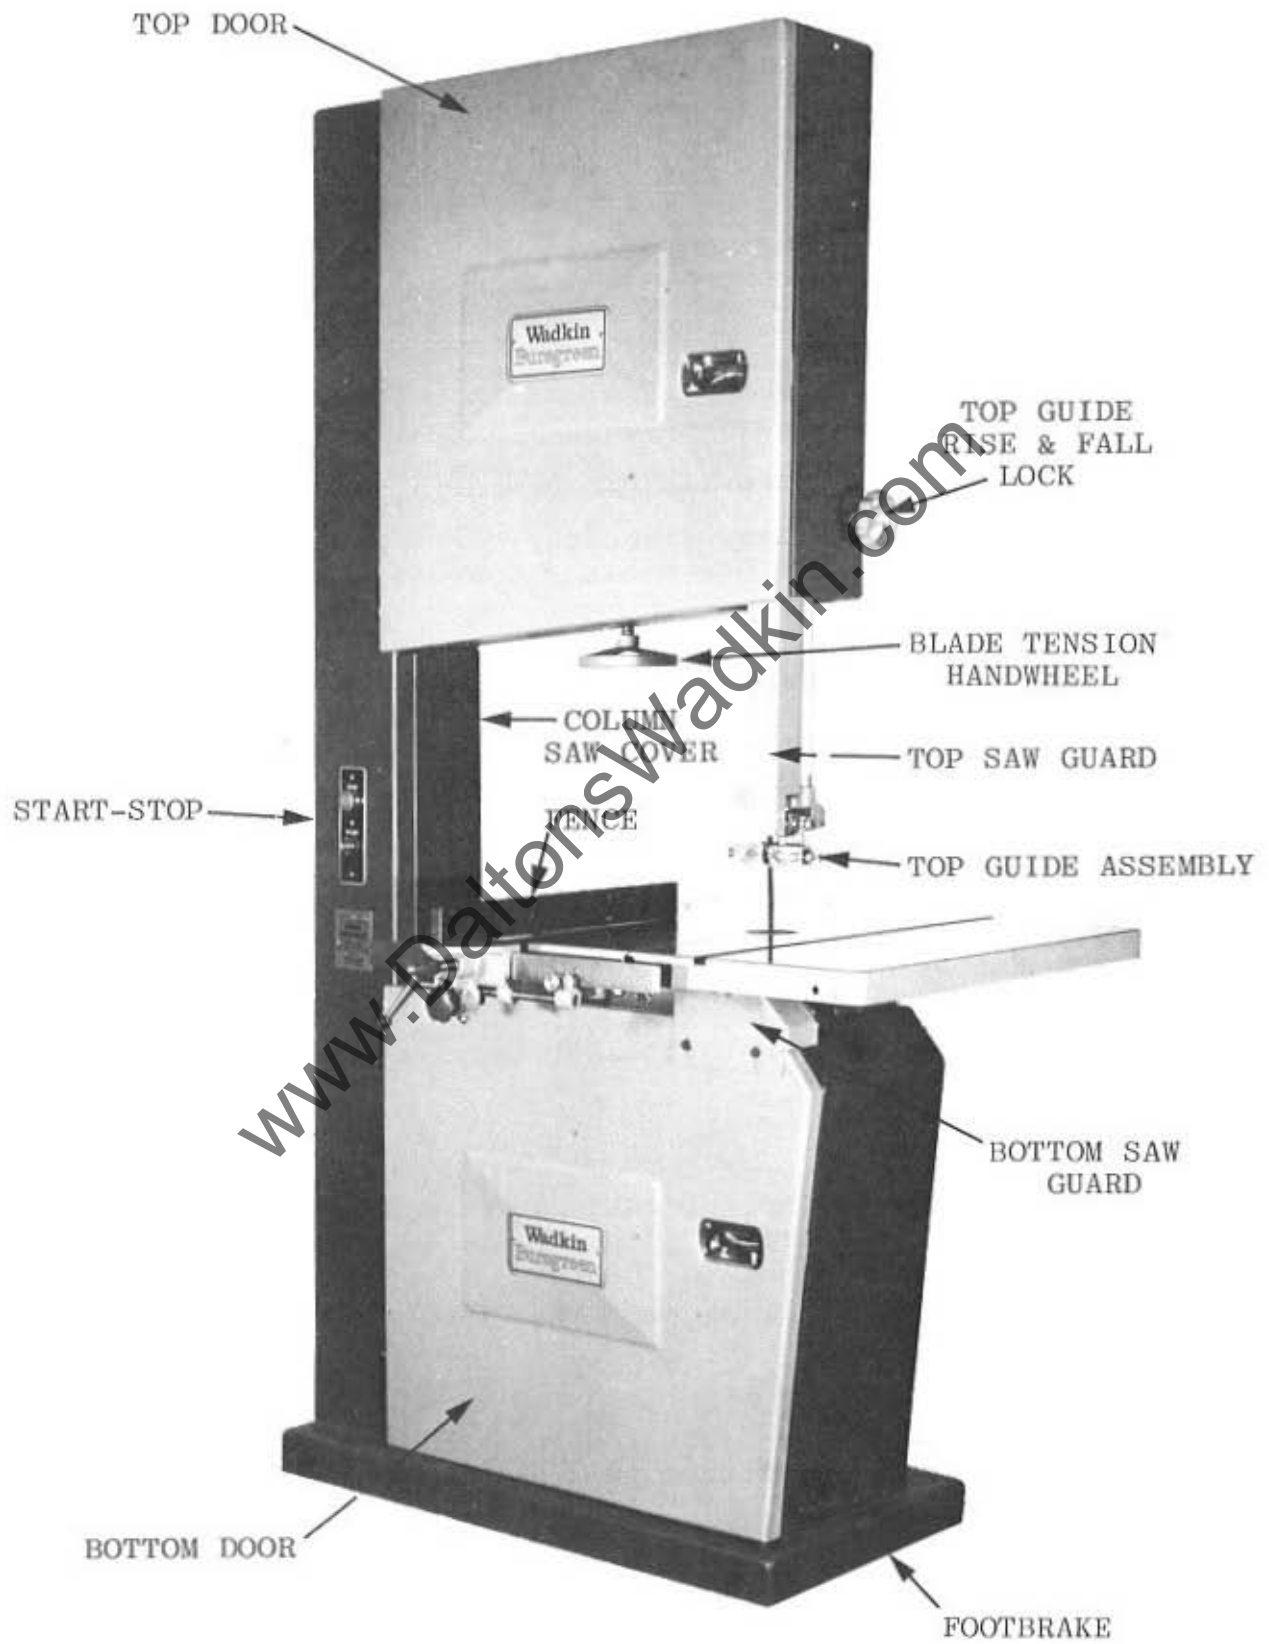

FIG 1
When machine is cased for export, the table is removed and packed individually. Remove and re-assemble as shown in FIG.1.
1. Open top and bottom doors of main frame also column saw cover see FIG.1.